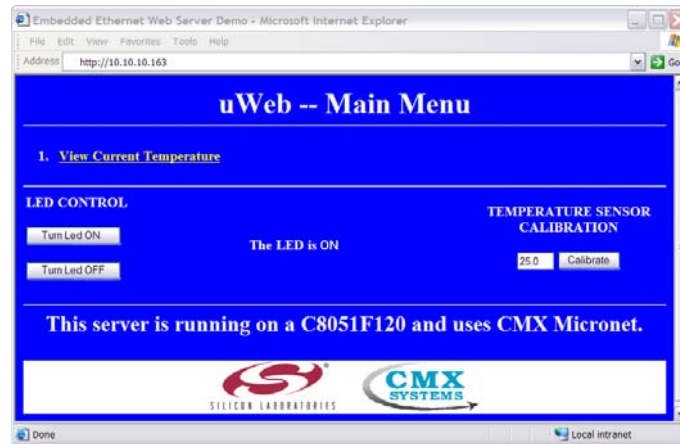

Figure 26. μ Web Embedded Web Server
4. Type in the IP address of the embedded system in a web browser and press Enter. The uWeb server executing on the MCU should be displayed on the screen as shown in Figure 26.